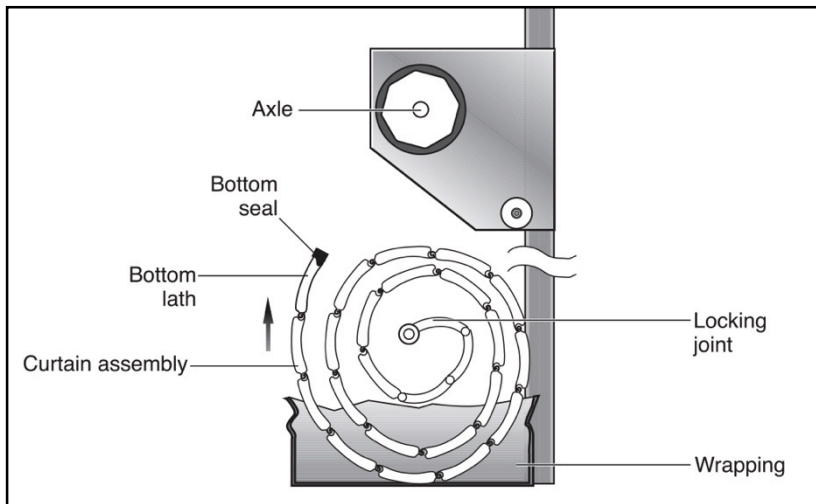

Fig 14
- 6.2 Carefully position the curtain assembly in the door aperture, below the axle as shown in (Fig14), slit the packaging to gain access to the curtain but leave some packaging to protect the curtain.